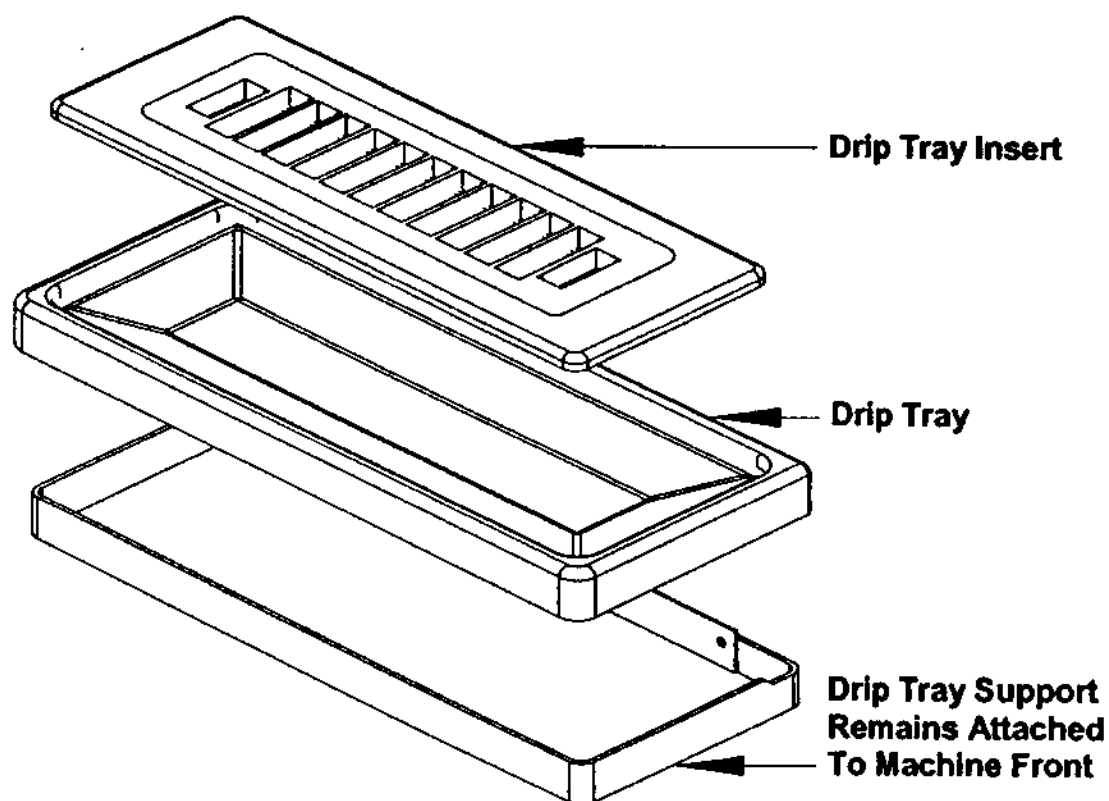

Fig. 22
10. Remove the mix pan lid, drip tray and drip tray insert (Fig. 22).